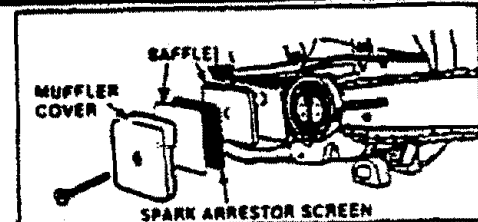

Figure 37
Maintain the proper hook angle according to the manufacturer's specification for the chain you are using. Improper hook angle will increase the chance of kickback which can result in serious injury. Figures 37 & 39.
- Remove the Muffler Cover. Figure 37.